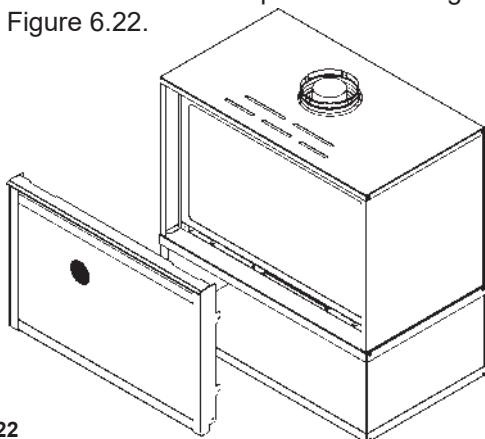

Figure 6.22
- 23. Install the INFIT-30-BK front on the insert. Adjust the insert from side to side and front to back to make sure the inside fit front is level prior to attaching the venting. See Figure 6.22.